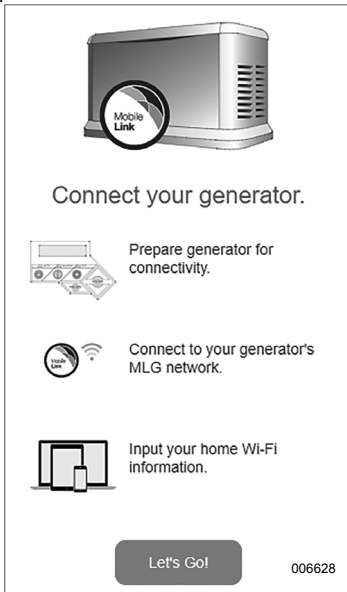

Figure 3-8. Installml Home Page
2. See Figure 3-8. Using a browser on a mobile device with Internet connectivity, go to installml.com. Click "Let's Go" to proceed.